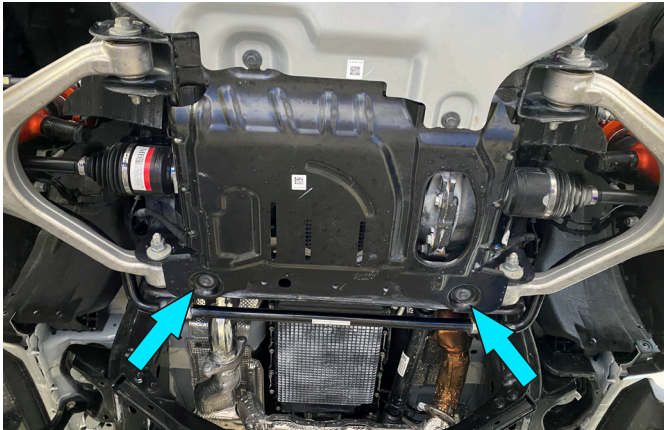

Fig. 1
1. Loosen bolts on factory or Rival engine skid plate (fig.1).